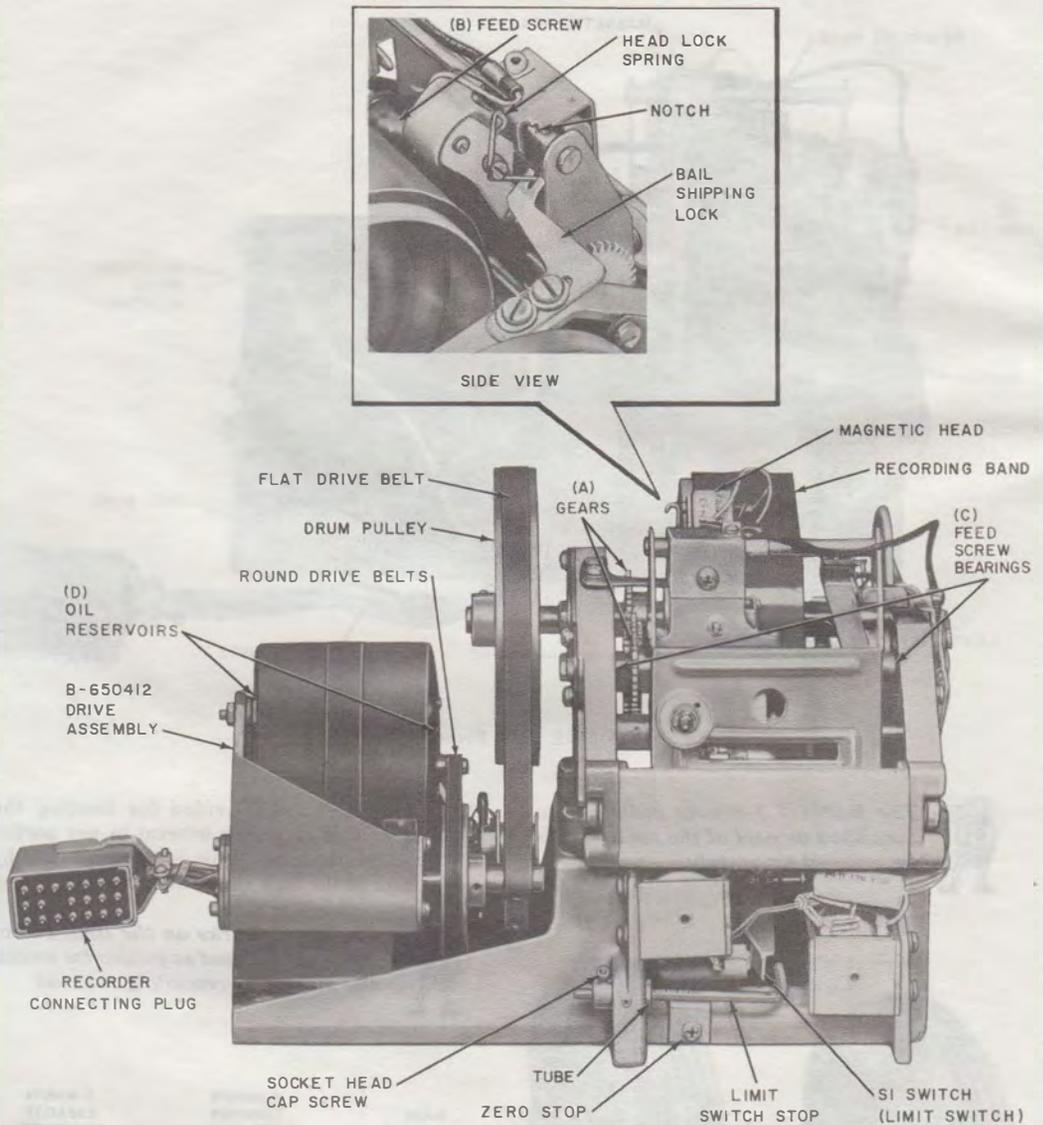

Fig. 6—KS-16765, List 3 Recorder, Front View
2.09 The KS-16765, List 3 recorder (Fig. 6 and 7) is the announcement recording mechanism. It consists of a magnetic record-reproduce head, an apparatus for tracking and switching, and a magnetic recording band on a drum. The drum is revolved by the B-650412 drive assembly (Fig. 10)
2.12 Facilities are provided for limiting the maximum recording interval to any portion of the total capacity. This is accomplished by adjustment of the limit switch stop (Fig. 6).
3.05 KS-16765, List 3 recorder (Fig. 6 and 7):